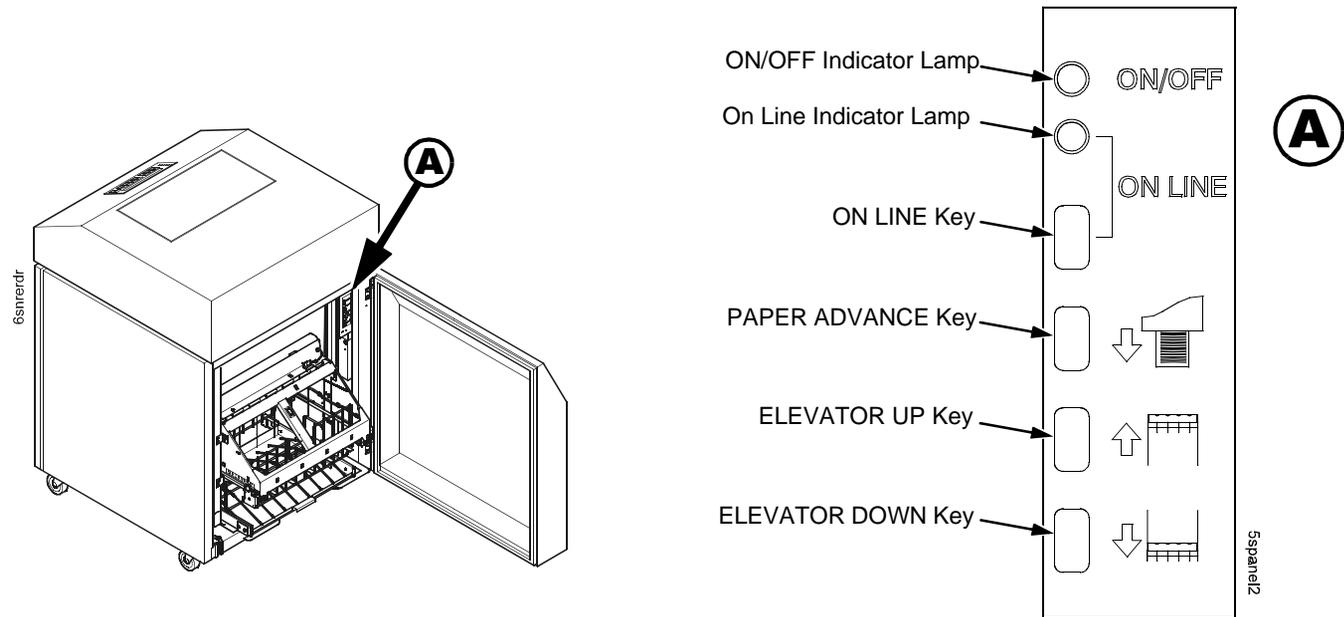

Figure 72. Power Stacker Control Panel
To gain access to the stacker control panel, open the rear door of the cabinet. The stacker control panel has two indicator lamps and four keys. (See Figure 72.)
3. On the stacker control panel, press **ON LINE** to take the printer offline. (Figure 72.)
4. Press the **ELEVATOR UP** key and wait for the stacker to reach the top of its travel. (Figure 72.)